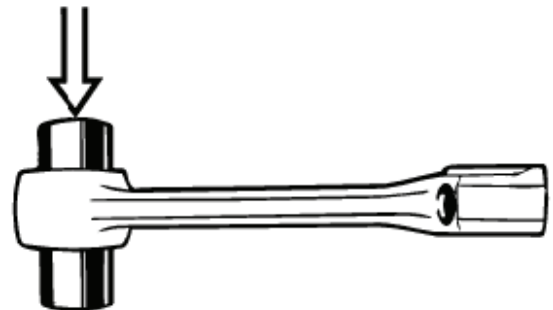

Figure 5-51
3. Check the fit of the wrist pin in the connecting rod. The wrist pin should pass through the bushing with little force and not have any significant play (**Figure 5-51**).